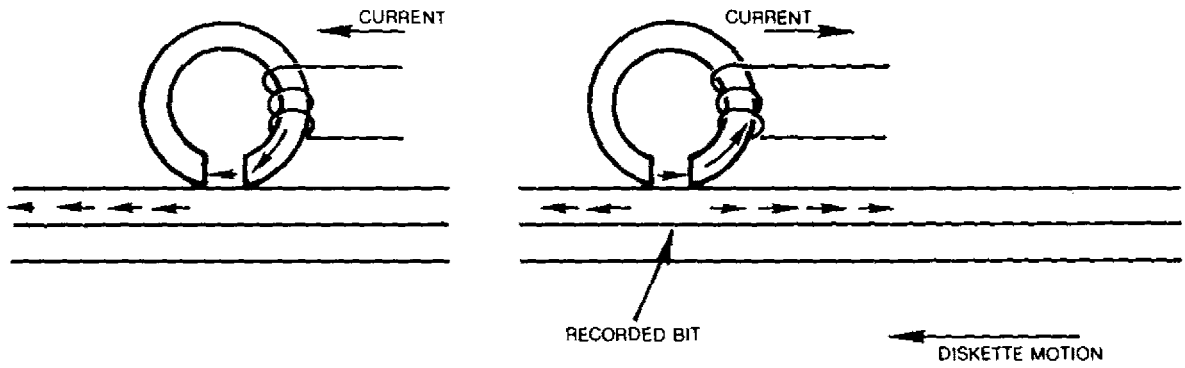

FIGURE 28. RECORDED BIT
1.4.3 During a write operation, a bit is recorded when the flux direction in the ring is reversed by rapidly reversing the current coil. The fringe flux is reversed in the gap and hence the portion of the flux flowing through the oxide recording surface is reversed. If the flux reversal is instantaneous in comparison to the motion of the diskette, it can be seen that the portion of the diskette surface that just passed under the gap is magnetized in one direction while the portion under the gap is magnetized in the opposite direction. This flux reversal represents a bit. See Figure 28.